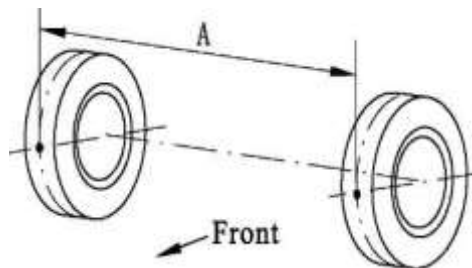

Figure 3
3)Measure the distance between the left and right tire mark and rotate to the front. As shown in figure 3.